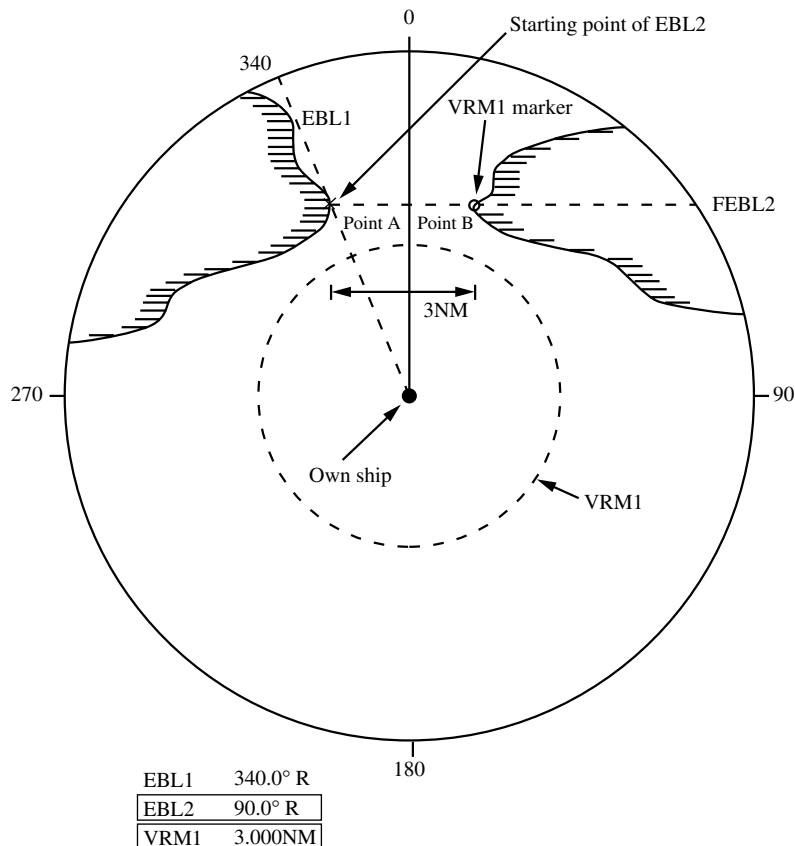

Fig. 4.3
(See Fig. 4.3.)
5. Turn the EBL control and bring FEBL to the other point (Point B). (See Fig. 4.3.)